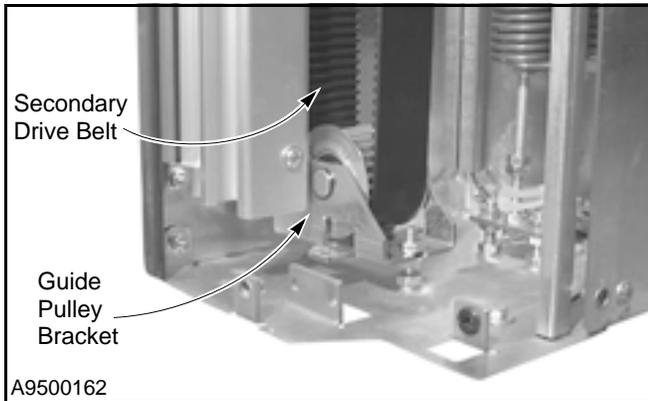

Figure 30
2. Inspect the entire length of both secondary drive belts. The belts should not be frayed, cracked, worn, or damaged. Also check for any damaged or missing teeth. Replace secondary drive belts if necessary. (See Figure 30.)